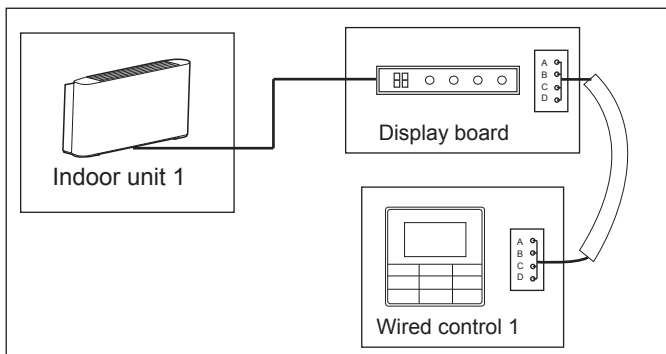

Figure 6.9
- Use 1 wired control to control 1 indoor unit (see Figure 6.9).